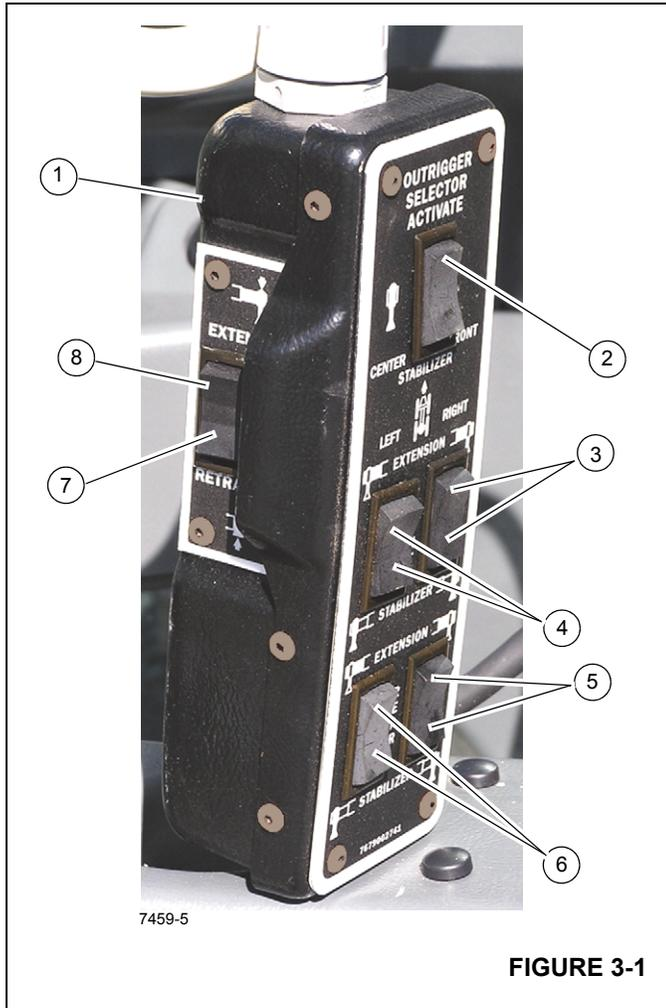
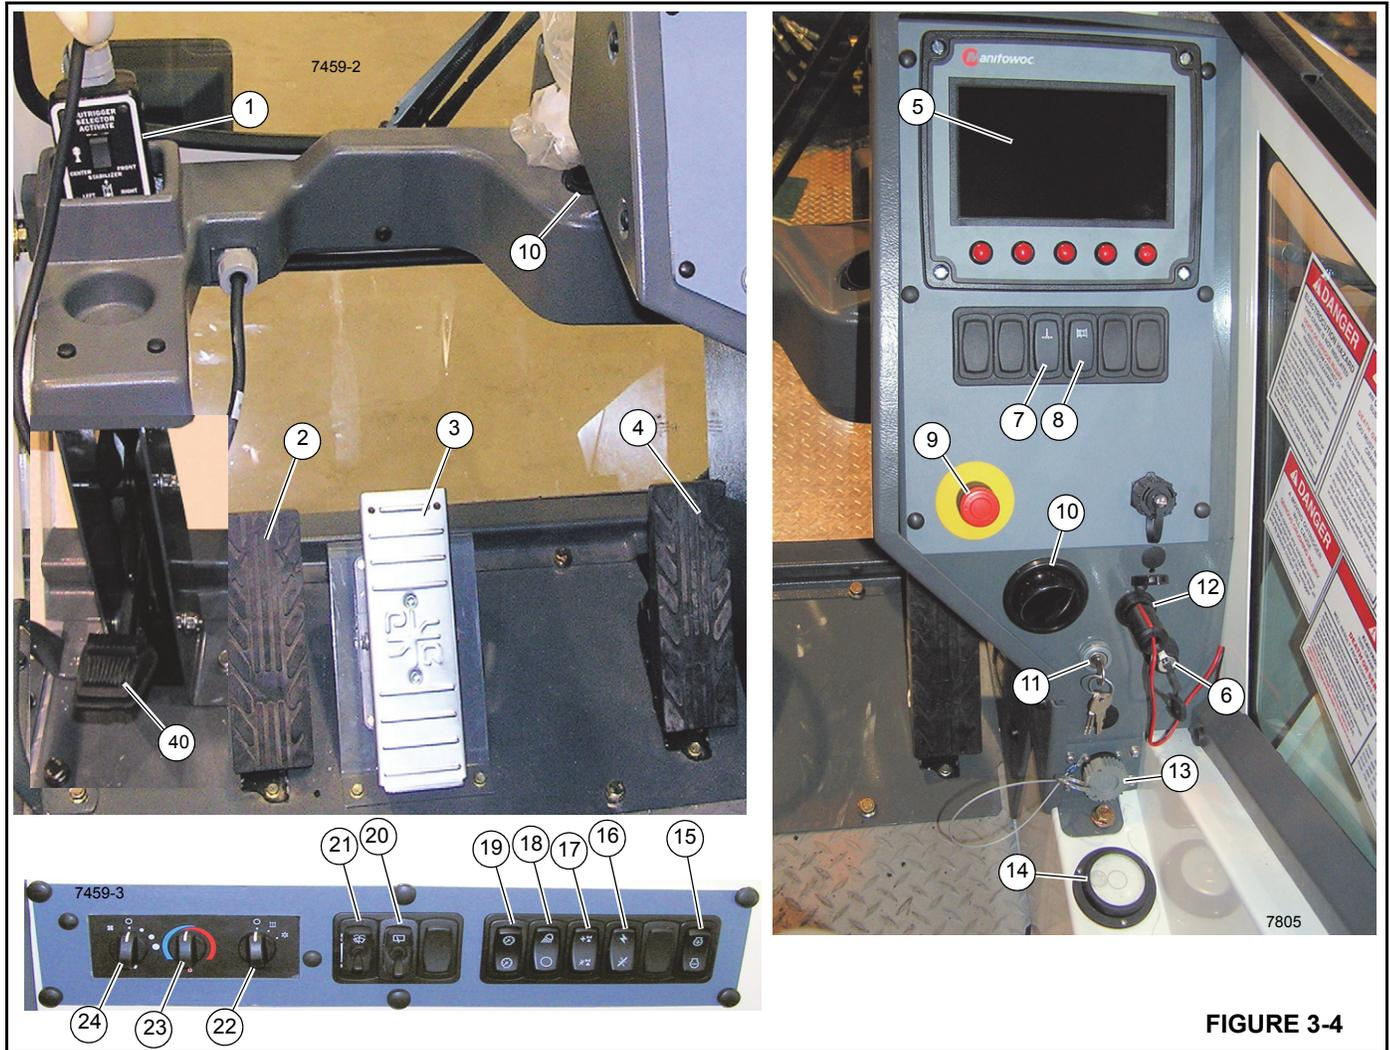

FIGURE 3-1
FIGURE 3-4
The outriggers can be operated from two locations, including a hand-held controller located (1, Figure 3-1) in the crane cab and ground station control panels (Figure 3-2) located on the left and right sides of the carrier frame. Each controller contains the control switches for extending and retracting the outrigger beams, for raising and lowering the outrigger stabilizer (jack) cylinders and for raising and lowering the center front stabilizer (optional).
The cab hand-held outrigger control (1, Figure 3-1) is stowed in the cab (Figure 3-4) and is used to control the outriggers from inside the cab.
The extend/retract switch (8,7 Figure 3-1) is located on the side of the outrigger control box and is used in conjunction with the outrigger selector switches (3,4,5,6 Figure 3-1) to control the outrigger functions.
There are four outrigger selector switches (3,4,5,6 Figure 3-1) on the outrigger control box. To extend or retract an outrigger component, first select the component with the outrigger selector switch (3,4,5,6), then select extend or retract with the extend/retract switch (7,8 Figure 3-1).
The center front stabilizer switch (2 Figure 3-1) is used to lower and raise the optional center front stabilizer. To operate the center front stabilizer, press the center front stabilizer switch toward activate and then press extend/retract switch (7,8). The center front stabilizer automatically retracts if any of the other jacks are adjusted and must be reset if lifting is to be continued.
The crane controls are located in the crane cab and are used for all crane functions. See (Figure 3-4 & Figure 3-5) for crane cab item number (#) identification. For best control response, run the engine at governed RPM when operating the crane.
The handheld outrigger control box (1, Figure 3-4) is stowed in the cab as shown and is used to control the outriggers.
The swing brake pedal (2, Figure 3-4) is located on the left side of the crane cab floor. Pressing the pedal down applies brake to the turret and prevents rotation; releasing the pedal allows the turret to rotate freely.
The swing brake pedal (40, Figure 3-4) is located on the left side of the crane cab floor. The brake pedal is used to mechanically lock the turret in a given position (360° lock).
When the swing brake is locked, the swing brake indicator (7, Figure 3-4) icon will be displayed on the crane cab console display panel.
The crane is equipped with the boom telescope pedal only when the auxiliary hoist option is included. The telescope foot pedal (3, Figure 3-4) is located on the crane cab floor and is used to extend and retract the boom. Pushing down at the top of the pedal extends the boom out; pushing down at the bottom of the pedal telescopes the boom in.
The foot throttle (4, Figure 3-4) is located on the crane cab floor and is used to control the engine speed. Depress the foot throttle to accelerate the engine speed and release to return to idle.
The display panel (5 Figure 3-4) is for the Rated Capacity Limiter (RCL), see operating instructions and screen displays in this manual.
There are two RCL Bypass (Override) Switches (6, Figure 3-4) located in the crane cab.
The RCL bypass switch (6, Figure 3-4) located behind the cab seat, below the fuse relay panel, is an off/on switch and will bypass the overloaded controls until the switch is turned to the OFF position.
The crane emergency stop switch (9, Figure 3-4) is located on the cab console and is used to shut down the truck engine in an emergency. Push the red button in to shut down the engine, rotate the knob and pull out to resume normal operation.
The cab has air conditioner and heating vents (10, Figure 3-4), located on the control panel, behind the panel, under the seat and at head level.
The crane ignition switch (11, Figure 3-4) is located on the crane cab console and controls the truck engine and crane cab power. The ignition switch has three positions. OFF shuts down engine and cab power, ON activates truck engine ignition as well as all cab power, and Start is truck engine start.
This 12 volt accessory outlet (12, Figure 3-4) is located on the lower part of the front control panel and is designed to mate with most 12 volt adapter plugs.
The diagnostic connector (13, Figure 3-4) is located on the lower part of the front control panel. It is used for servicing the cab and crane's electrical system.
The bubble level indicator (14, Figure 3-4) is located on the right interior wall of the cab. The indicator provides the operator with a visual indication for determining the levelness of the machine.
The truck engine Hi/Low Switch (15, Figure 3-4) is located on the right overhead console.
The crane function power switch (16, Figure 3-4) is located on the right overhead console. The switch has two positions: OFF takes all power from the joy stick controllers on the arm rest and from the swing brake unlock (assuring the brake stays locked). The OFF position prevents inadvertent operation of these functions and assures the swing brake is set when the crane is not powered. The ON position will restore power to the joy stick controllers and the swing brake.
The radio remote switch (17, Figure 3-4) is used to enable the radio remote controls. The crane function power switch, and truck ignition must all be OFF before the crane can be operated with a radio remote control. The crane ignition switch must be in the ON position.
The work light switch (18, Figure 3-4) is a two position rocker switch, ON and OFF, located on the right overhead console. It turns the cab outside working lights on or off.
The dimmer light control (19, Figure 3-4) dims the light for the AC/heater control knob (23).
The skylight wiper switch (20, Figure 3-4) is located in the overhead console. This is a Hi/Low toggle type switch with 6 intermittent positions, intermittent timing is 2-15 seconds, wiper washer timing is 3 seconds.
The windshield wiper/washer switch (21, Figure 3-4) is located in the overhead console. This is a Hi/Low, rocker/toggle switch with 6 intermittent speed positions, ranging from 2 to 15 seconds and 2 constant low high speeds. Position 7 is low speed and position 8 is high speed. The wiper/washer timing is 3 seconds. The windshield washer is activated by depressing the top of the rocker on the windshield wiper switch.
Function Switch (22, Figure 3-4) allows operator to select either the heater or air conditioner.
Temperature Control (23, Figure 3-4) controls the temperature for both the heater and air conditioner.